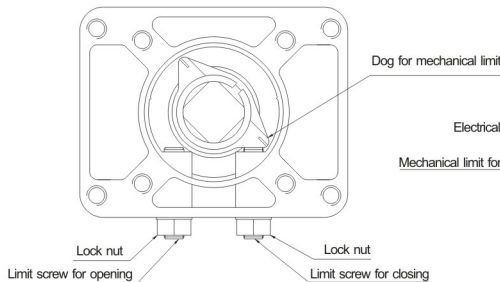

Fig. 6
4、 Adjustment of Mechanical Limit (Mechanical Protection), refer to Fig. 6 , 7.